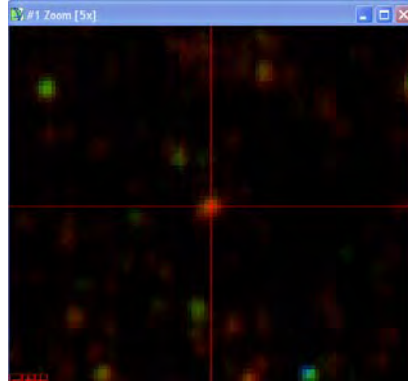

Figure 2. Zoom window with crosshair enabled and centered on particle
1. Enlarge the Zoom window so that it contains many objects of different color (see Figure 2)
3. To turn on and off the crosshairs use the button to the right of the (+) in the bottom left corner of the zoom window. The crosshair cursor appears below in the Zoom window (see Figure 2)